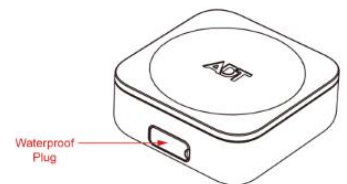

Figure 6
1. To remove the waterproof plug that covers the USB interface. (Figure 6)